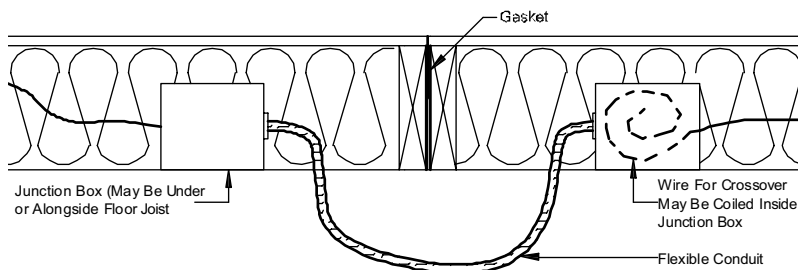

Figure 57. Under the rim joist electrical crossover connection with conduit
2. **Connect wires.** If wire is coiled inside one junction box, insert it into provided flexible conduit and pass it under the rim joists to the opposing box and make the connection as described above. If no coiled wire is provided, install provided ship-loose conduit with wire making connections in both boxes (**Figure 57**).